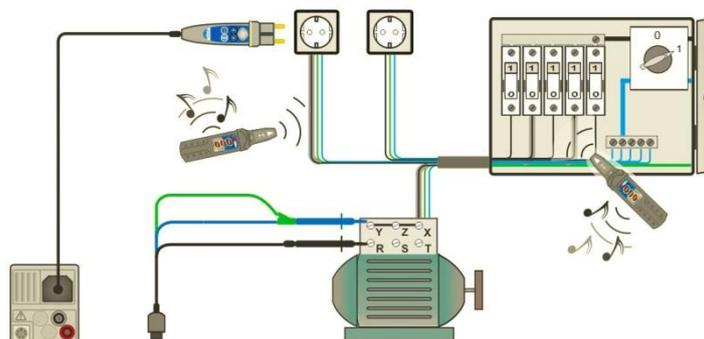

Figure 7.123: Tracing wires under walls and in cabinets
- › Connect test leads to the tested object (see **Figure 7.123** and **Figure 7.124**).